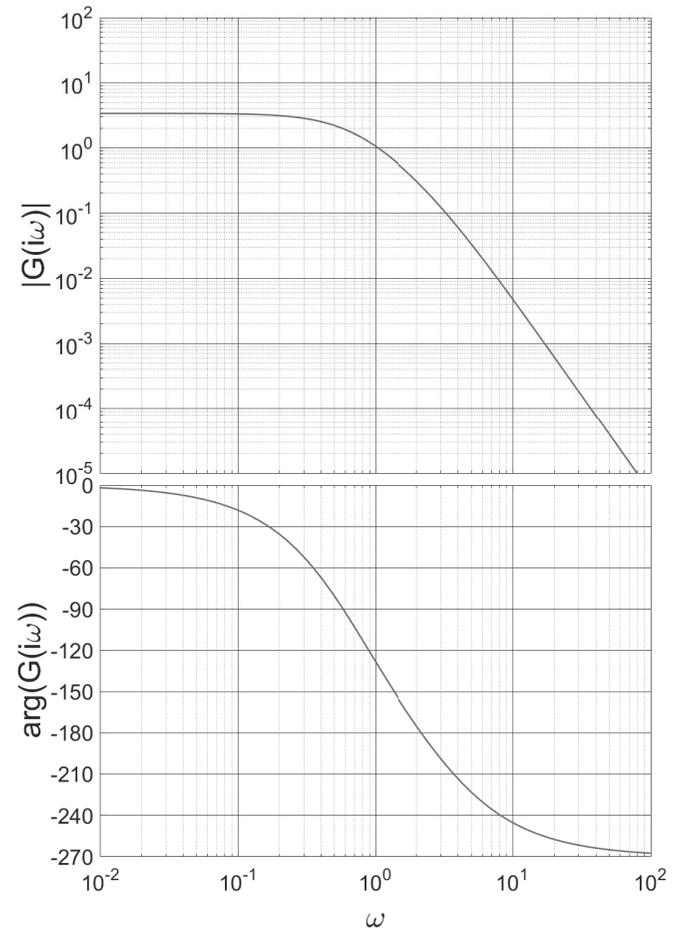

Figure 5.20a
5.20 Consider a system  $G(s)$ , whose Bode diagram of  $G(s)$  is given in Figure 5.20a, and the input-output relation  $Y(s) = G(s)U(s)$ . This system will be controlled with the feedback law